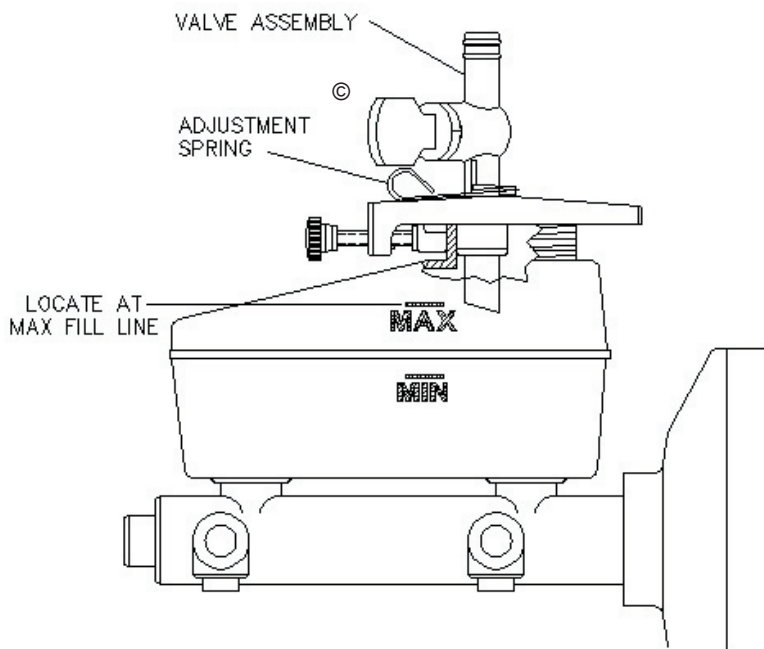

Figure 3
5. Install the Adjustment Spring onto the neck of the Valve Assembly as shown (Fig 3).
6. Slide the neck of the Valve Assembly through the hole in the Refill Base, and use the Adjustment Spring to align the bottom of the neck with the MAX fill line on the master cylinder (Fig 3).